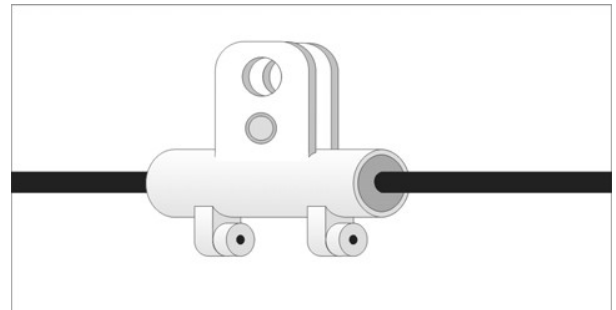

Figure 2: Fiberoptic Tangent Assembly
- Line offsets of 0 to 20° (horizontal and/or vertical) require fiber optic tangent assembly (Figure 2)